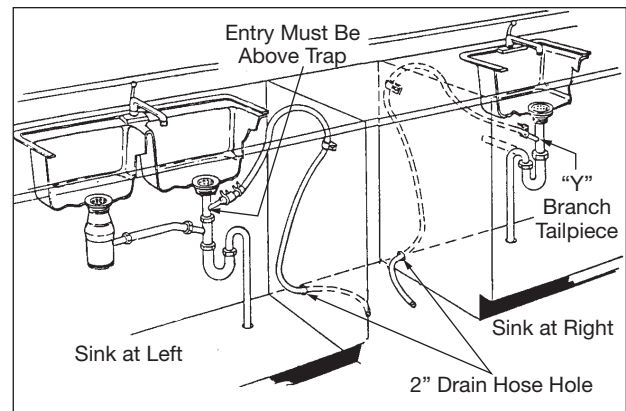

Figure 2-13. Installation Diagram
1. Review Figures 2-13, 2-14 & 2-15 to see the different ways to connect dishwasher to drain system. Choose method that best suits your need.
2. If you connect to a sink drain, entry will need to be above trap. A "Y" branch tailpiece and connector kit, not included, will make this method easier and includes all needed fittings and instructions. (See Figure 2-13)